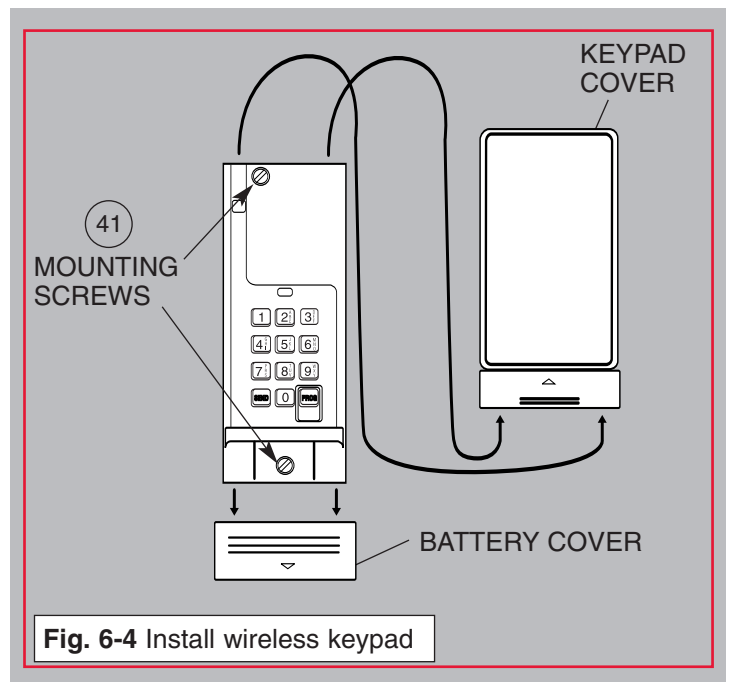

Fig. 6-4 Install wireless keypad
1. Remove covers (Fig. 6-4).
2. Mount keypad (Fig. 6-4).
3. Replace battery (Fig. 6-4).